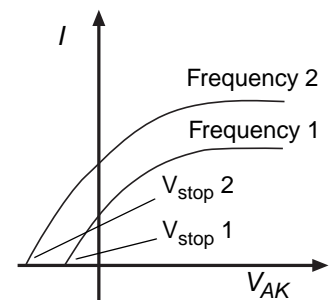

Figure 3: Current vs. Frequency
- Light of different frequencies (colors) have different stopping potentials. See Figure 3